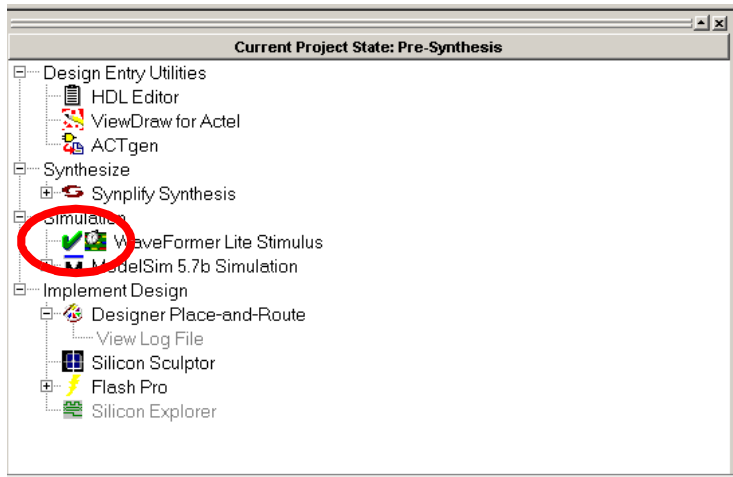

Figure 5-11. Check Mark in Waveformer Lite
3. **Click OK.** A check mark appears next to Waveformer Lite in the Process window, as shown in Figure 5-11.